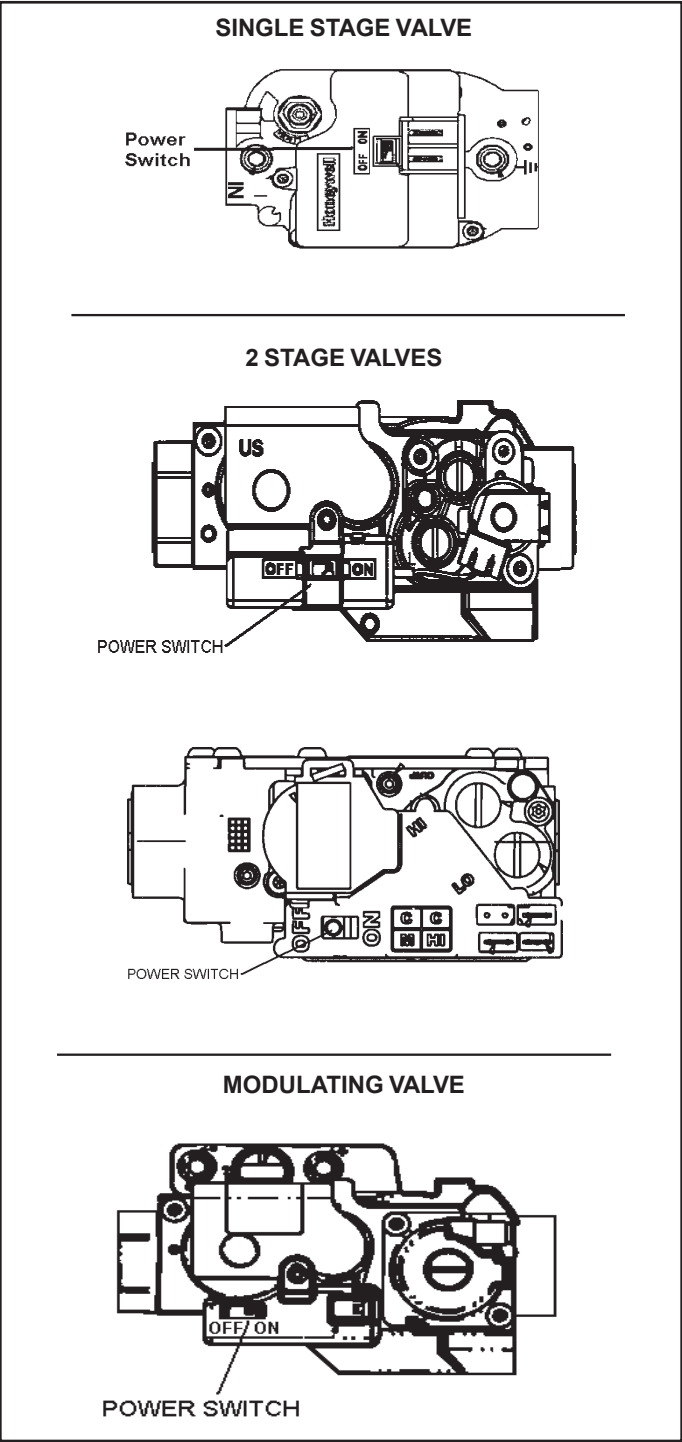

Figure 1.
See Figure 1
6. Move switch on gas valve to **OFF**. See Figure 1.
8. Move switch on gas valve to **ON**. See Figure 1.